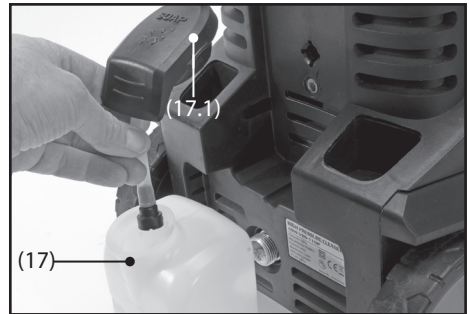

FIG.16
9.2 INTEGRATED DETERGENT BOTTLE (03095 & 03096) – FIGS.16 – 17
- Remove the cap (17.1) from the detergent bottle (17) and fill the bottle with a suitable detergent, according to the manufacturer's recommended instructions.
- Remove either the spray nozzle (7) or turbo nozzle (19) (if fitted) from the end of the lance (9).